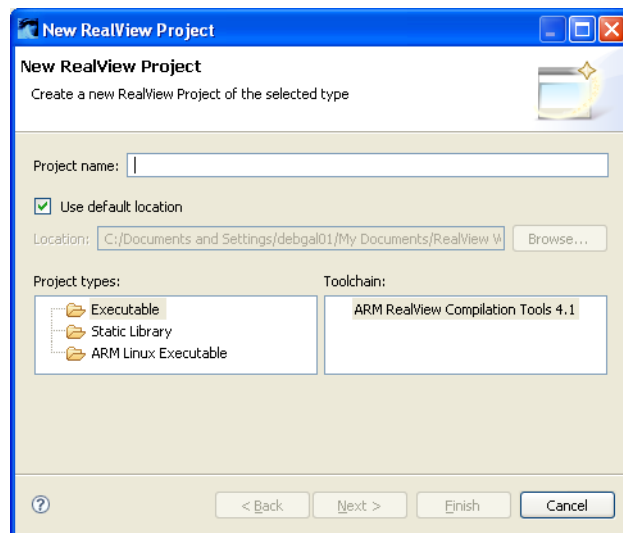

Figure 3-3 Naming your project
2. Enter a project name and select the type of project, see Figure 3-3. Leave the **Use Default location** option selected so that the project is created in the default folder shown. Alternatively, deselect this option and browse to your preferred project folder. Click on **Next**.